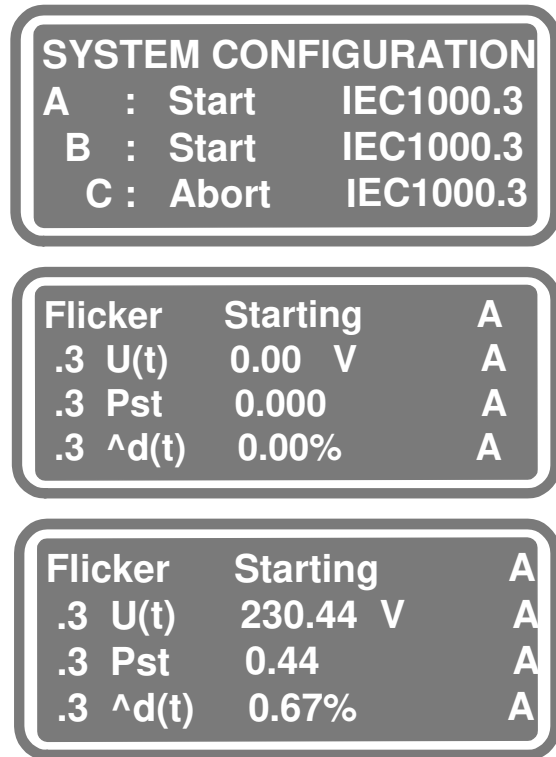

Figure 38. Flicker Level Testing
4. Access System Configuration using the **System** key. Refer to Figure 38 for a sample of the display for a 3-channel instrument.